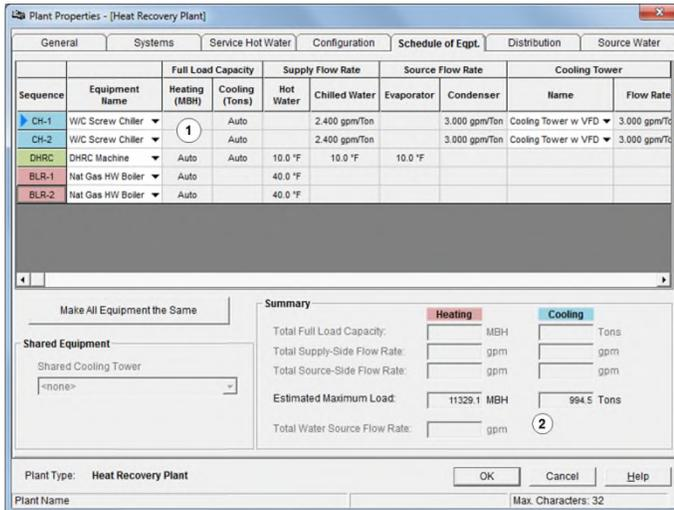

Figure 11.
The Schedule of Equipment Tab (Figure 11) is used to select the individual chillers and boilers used in the plant:
- The **Equipment Table** (see 1 in figure) contains one row for each chiller or boiler in the plant. In the example in Figure 11 there are two chillers, color coded as blue, and designated as CH-1 and CH-2. There is one DHRC machine color coded green. There are also two boilers, color coded as red, and designated as BLR-1 and BLR-2. If you’ve previously defined the chiller, DHRC machine and boiler equipment (as in Step 3 above), these items will appear on the drop-down list and can be selected. If the equipment has not yet been defined, you can select the “create new chiller”, “create new heat pump”, or “create new boiler” option in the list to create and link the equipment.
- The remaining items on this tab (2) are display only and provide reference information about equipment flow rates and capacities (if available).